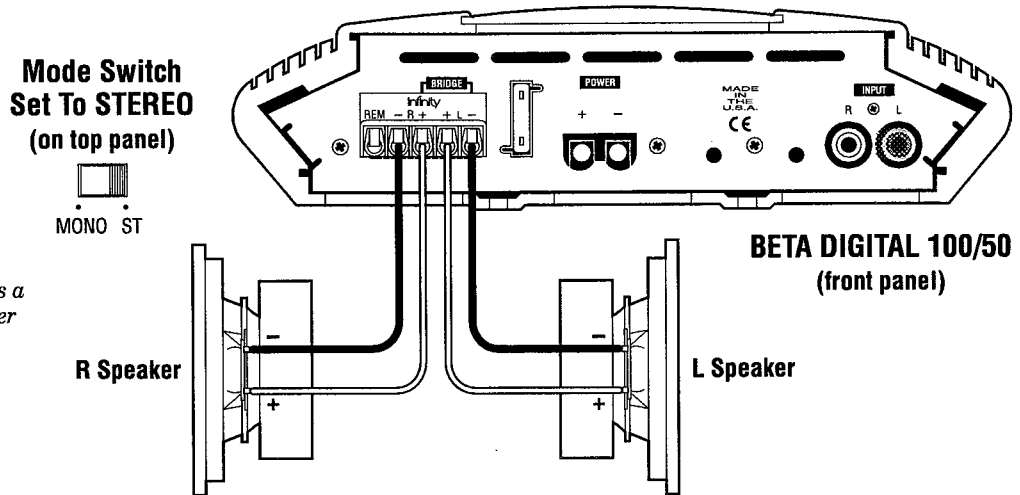

Figure 1. Wiring diagram shows a Beta Digital 100 (or 50) amplifier set to stereo to drive a pair of full-range speakers.
For your convenience, we've included several application diagrams to help you plan your own system installation. Figures 1 through 3 show how to configure the Beta Digital 100 (or 50) for stereo, bridged-mono, and tri-mode applications.
NOTE: For simplicity, Figures 1 through 5 do not show power, remote, and input connections.
- When making connections, make sure that each connection is clean and properly secured. Observe the polarity markings on the rear panel. Refer to the application drawings (Figures 1 through 4, starting on page 3) to set up the amplifiers for operation in stereo, bridged-mono, bi-amp, or tri-mode configurations.